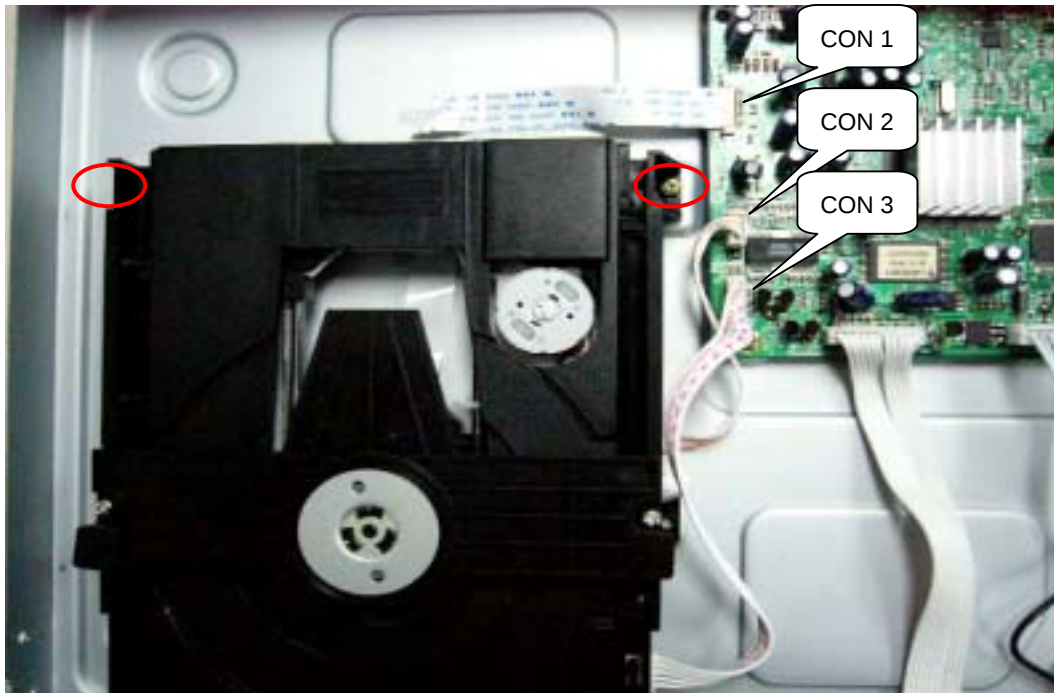

Figure4
Step3: Dismantling Loader, First, disconnect the 3 connectors aiming in the figure, and then remove the 2 screws at both sides of the loader, (Figure 4)